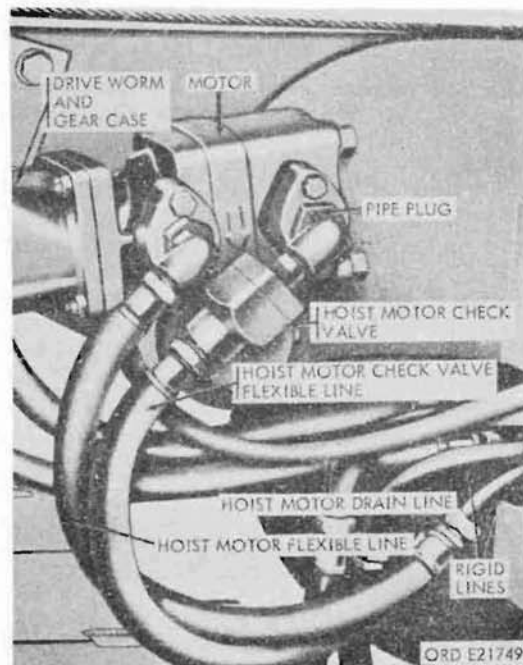
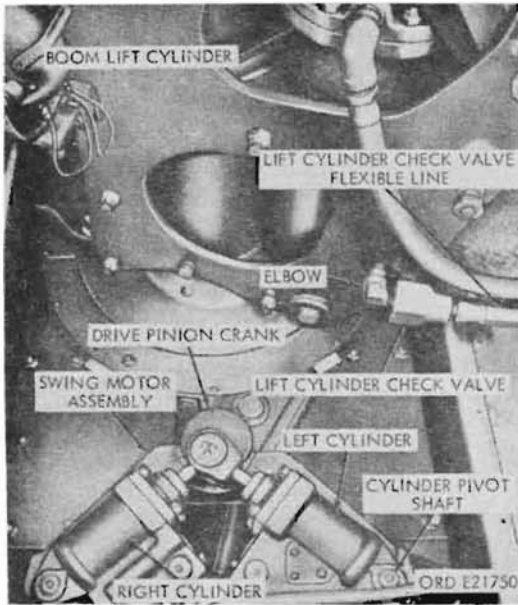

Figure 314. Cable hoist hydraulic motor and check valve
Figure 315. Boom lift hydraulic cylinder, check valve, and swing motor
d. Adjustment. Remove pipe plug (fig. 314) in elbow at cable hoist motor, and install pressure gage capable of reading 1500 psi. Start hydraulic pump. Lower cable hoist line hook sufficiently to prevent fouling of line. Retract boom completely. Hold boom crowd control-valve hand lever in RETRACT position to open relief valve under excess pressure and, at the same time, hold cable-hoist motor control-valve hand lever in UP position. Read relief valve opening pressure on pressure gage. If necessary to adjust relief valve, remove cap nut on end of relief valve, remove capnut on end of relief valve (fig. 304). Loosen jamnut on relief valve adjusting screw and turn screw to the right, when facing screw head, to raise relief valve opening pressure, or to the left to lower pressure. Adjust valve until gage reads 1200 psi. Tighten jamnut on adjusting screw without disturbing screw position. Install capnut. Stop hydraulic pump. Remove pressure gage, and install pipe plug in elbow.
b. Cable-hoist Motor Check-valve (Fig. 314).
- (1) Removal. Disconnect hoist motor check-valve flexible line from rigid line at swivel connection, and remove flexible line from check-valve. Remove check-valve from cable-hoist motor.
- (2) Installation. Install hoist motor check-valve on nipple on cable-hoist motor with square end of valve nearest nipple. Connect one end of hoist motor check-valve flexible line to check-valve and other end to swivel connection on rigid line.
c. Boom Lift Cylinder Check-valve (Fig. 315).
- (1) Removal. Disconnect lift cylinder check-valve flexible line from rigid line at swivel connection, and remove lift cylinder check-valve flexible line from check-valve. Remove check-valve from boom lift cylinder.
- (2) Installation. Install lift cylinder check-valve on pipe elbow at lower port on boom lift cylinder, with square end of valve nearest elbow. Connect one end
- (9) Disconnect rear-winch front propeller shaft (fig. 315) from winch output shaft yoke (fig. 319) at rear of power-divider.